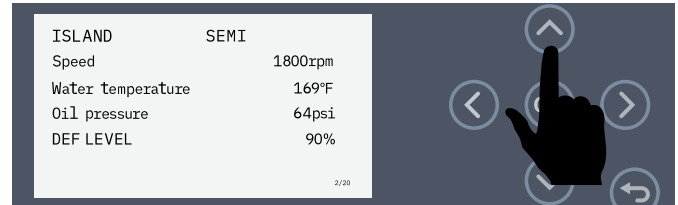

Figure 60. Engine Status Screen
11. To view engine operating parameters, press the **Up Arrow button** (Figure 60) to navigate to the **Engine Status screen** which displays engine speed, coolant temperature, engine oil pressure, and diesel exhaust fluid (DEF) level.